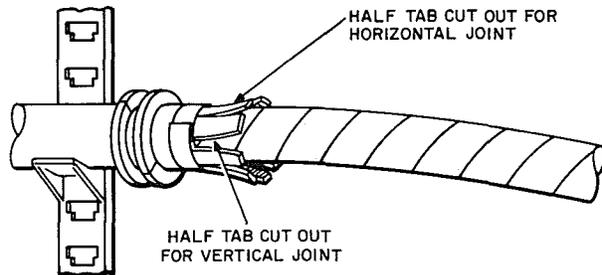

Fig. 13—Cutout for Inner Sheath Clamp Ears
3.09 If the completed splice is to be mounted with the joint between the cases horizontally, remove half of the tab on the top of the cable. If this joint is to be vertical, remove half of one of the tabs on the side of the cable. The necessary cuts should be made through any metal layers as shown in Fig. 13. This space is required for clearance of the inner sheath clamp ears.